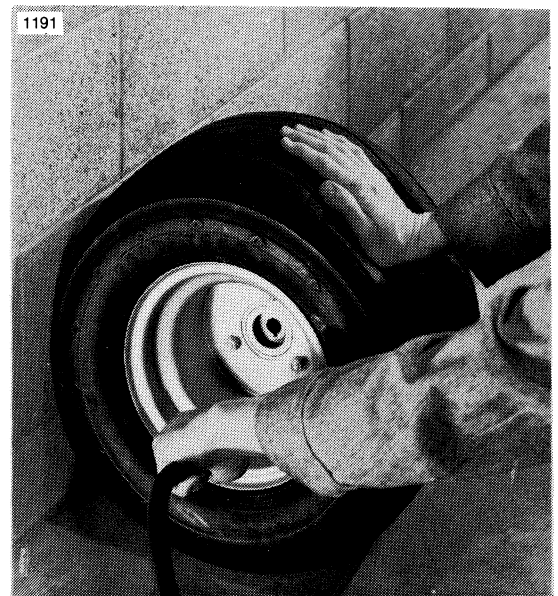

Figure 2-3. Tire Replacement
TIRES (Figure 2-3)
3. If tire machine is unavailable, loosen both tire beads by applying pressure to tire side walls (Step I, Figure 2-3).
6. With valve stem side up, carefully start upper bead over edge of wheel rim with tire tool (Step II, Figure 2-3).
7. When top bead is free of rim, shift lower bead into rim well on one side of wheel and insert tire tool on opposite side. Pry lower bead over rim flange (Step III, Figure 2-3).
6. Place tire upright against wall and push against tire on side opposite wall (Figure 2-3). This three point contact will tend to bring bead out in contact with rim so that internal pressure is formed and beads snap into place when air is applied through valve stem.
3. If tire machine is unavailable, loosen both tire beads by applying pressure to tire walls (Step I, Figure 2-3).
- When top bead is free of rim, shift lower bead into rim well on one side of wheel and insert tire tool on opposite side. Pry lower bead over rim flange (Step III, Figure 2-3).
- Place tire upright against wall and push against tire on side opposite wall (Figure 2-3). This three point contact will tend to bring bead out in contact with rim so that internal pressure is formed and beads snap into place when air is applied through valve stem.